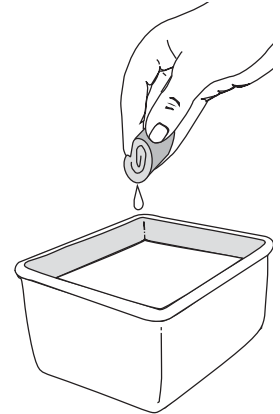

Fig. 28
3. Wash the filter in detergent and water (Fig. 28). Rinse the filter thoroughly. Squeeze out excess water. Allow it to dry completely.